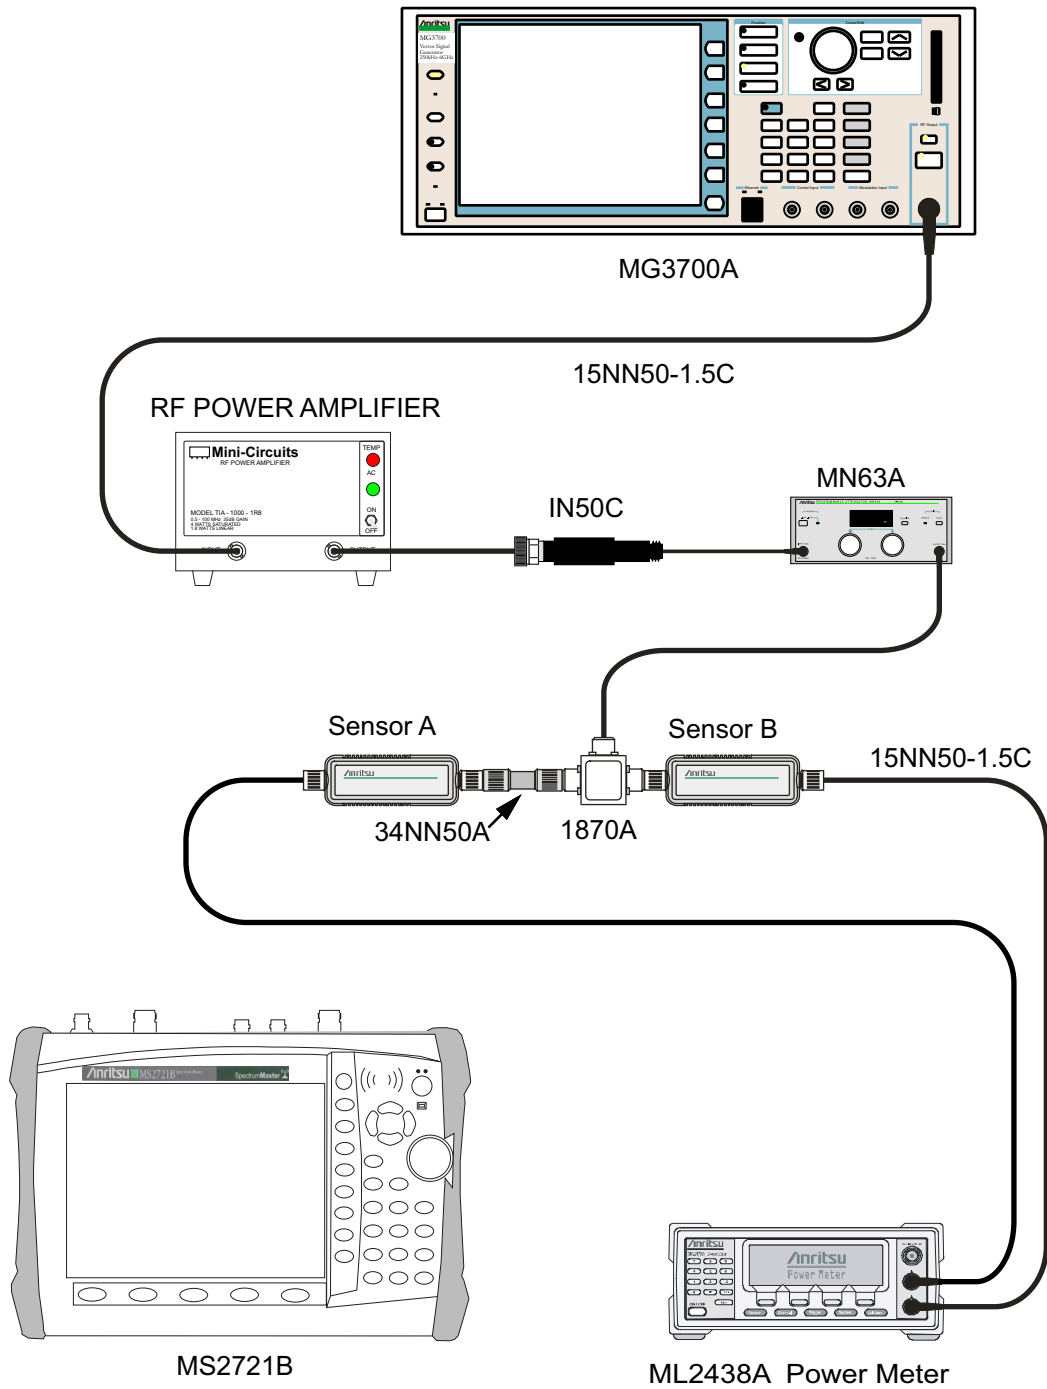

Figure 3-9. Level Accuracy and 1 dB Compression Level Pretest Setup – Two Sensors
2. Connect the MG3700A Signal Generator, Power Amplifier with N(f) to BNC(m) adapters, RF Limiter, MN63A Programmable Attenuator, Power Divider, Power Meter, and Power Sensors as shown in Figure 3-9, “Level Accuracy and 1 dB Compression Level Pretest Setup – Two Sensors” on page 3-25.
50. Turn off the Power Amplifier, disconnect the Power Splitter from the MS2721B, and re-connect Sensor A to the Power Splitter as shown in Figure 3-9, “Level Accuracy and 1 dB Compression Level Pretest Setup – Two Sensors” on page 3-25.
4. Connect the MG3700A Signal Generator, Power Amplifier with N(f)-to-BNC(m) Adapters, RF Limiter, MN63A Programmable Attenuator, Power Divider, Power Meter, and Power Sensors as shown in Figure 3-9, “Level Accuracy and 1 dB Compression Level Pretest Setup – Two Sensors” on page 3-25.